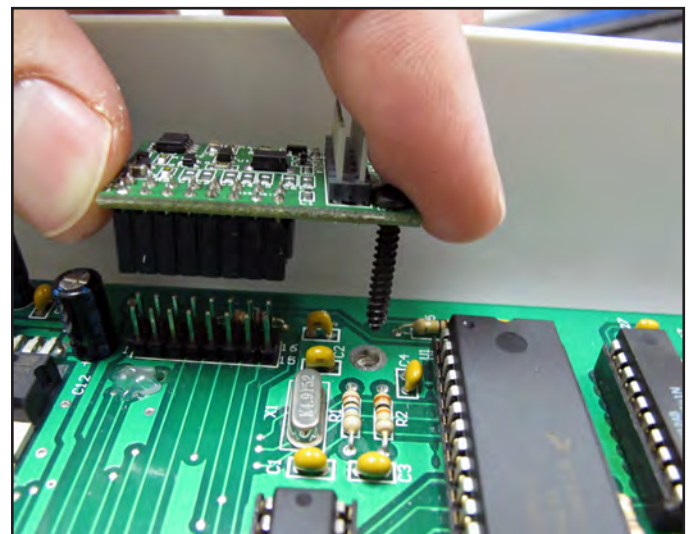

Figure 3.43
6. On the old C-Pod (*the one just removed from the HQ Sixteen*), gently pull upward on the Lock Board to remove it from the old C-Pod and press it firmly in place on the new C-Pod (**Figure 3.43**). Make sure both rows of pins enter the header on the underside of the Lock Board. The red LED should be located at the top right when looking into the C-Pod.